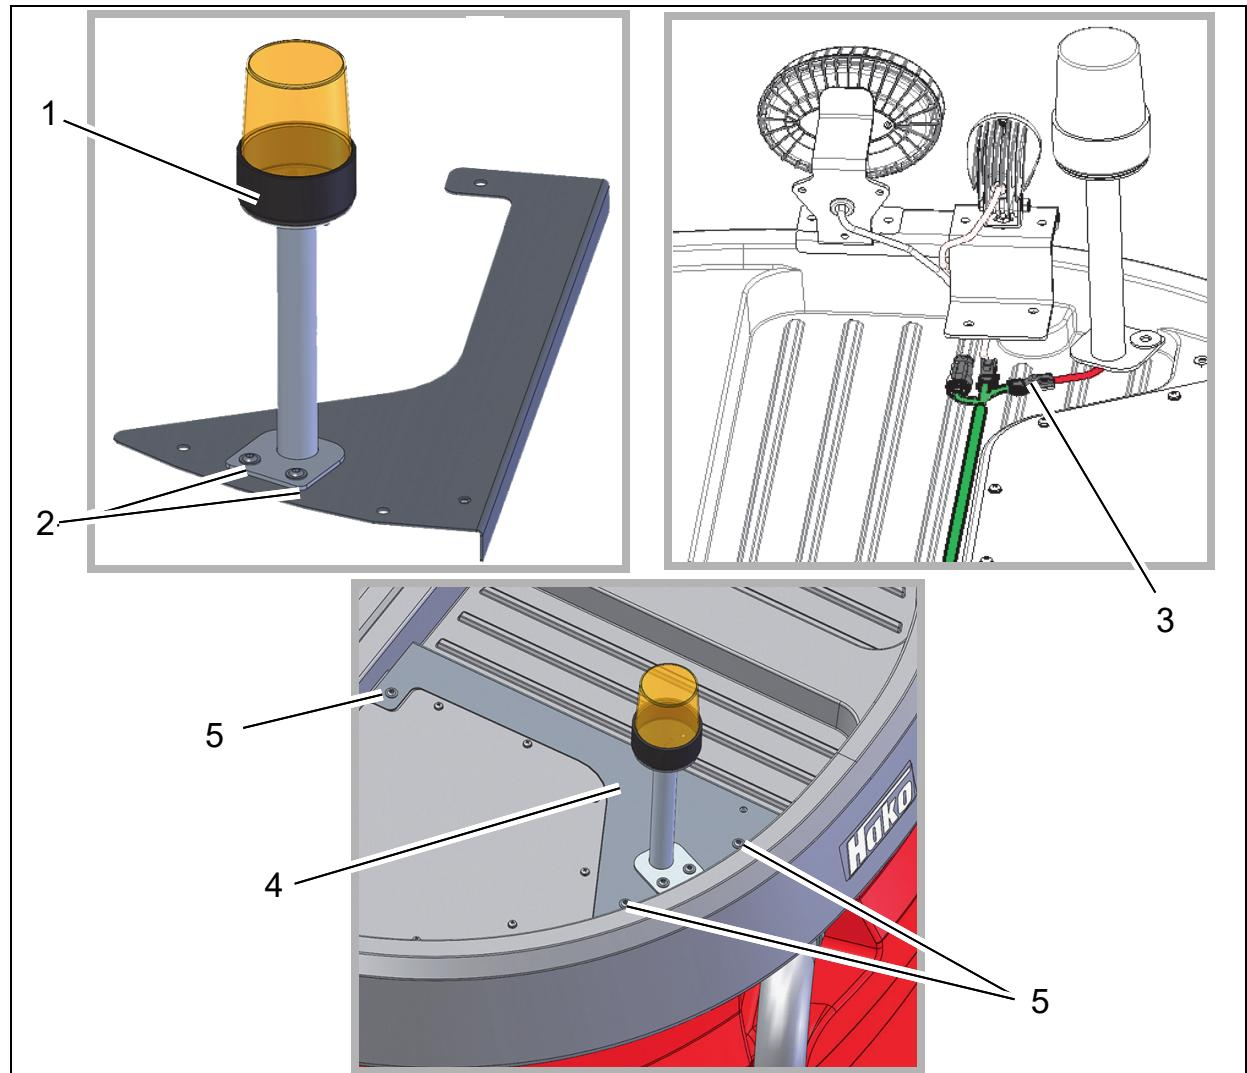

Fig. 3
1. Lead cable loom W75 of the flashlight (Fig. 3/1) through the hole in the cover plate.
2. Secure the flashlight to the cover plate with the two M6x16 flanged button head bolts (Fig. 3/2).
1. Connect plug X69 of cable loom W74 to the plug of the flashlight on a pole (Fig. 3/3).
2. Cover cable loom W74 and plug connections using the pre-assembled cover plate (Fig. 3/4).
3. Attach the cover plate to the tank cap using three M6x12 flanged button head bolts (Fig. 3/5).